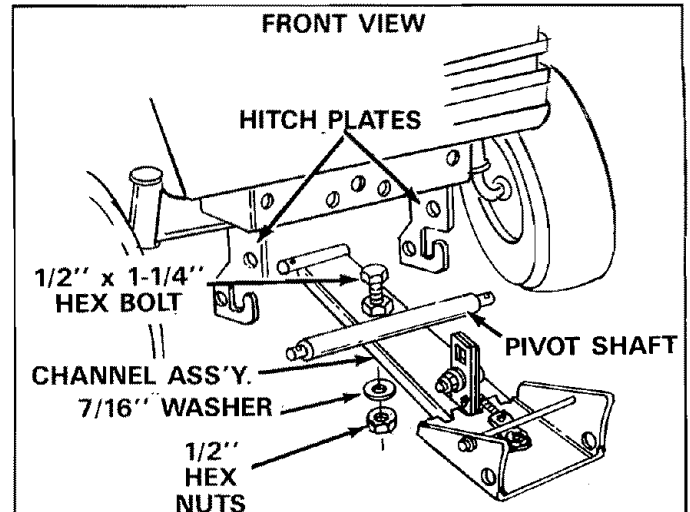

FIGURE 7
3. Assemble one 1/2" x 1-1/4" hex bolt into slotted hole in channel assembly, (see figure 7) with one 1/2" hex nut and one 7/16" standard washer on top side and one 1/2" hex nut and 1-7/16" standard washer under channel. **Do not tighten at this time.**
4. Assemble channel assembly to front of tractor shown in figure 7 and 8.